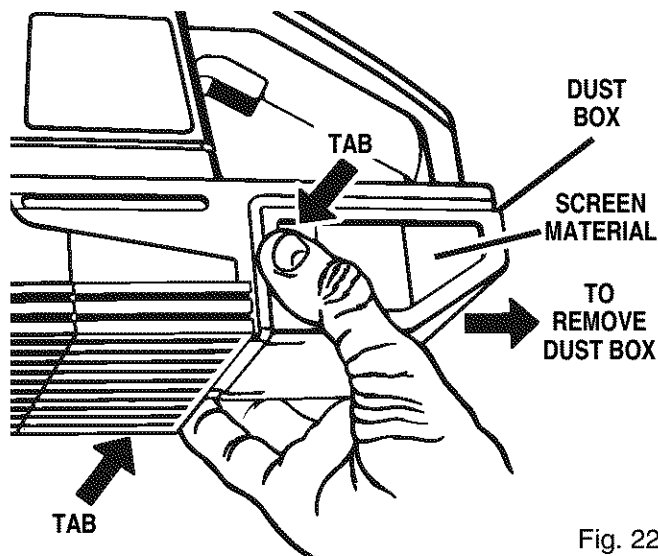

Fig. 22
See Figure 22.
- To release dust box, depress tabs located on each side of dust box as shown by the arrows in figure 22.
- Slide dust box to the rear of plate joiner as shown by the arrow in figure 22, and remove.